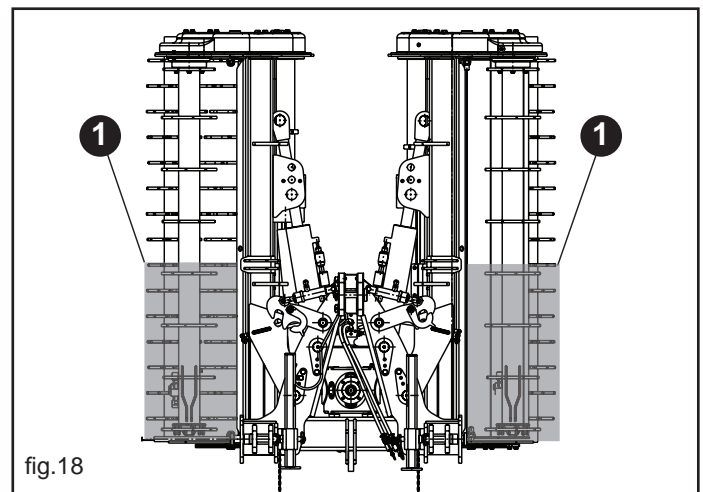
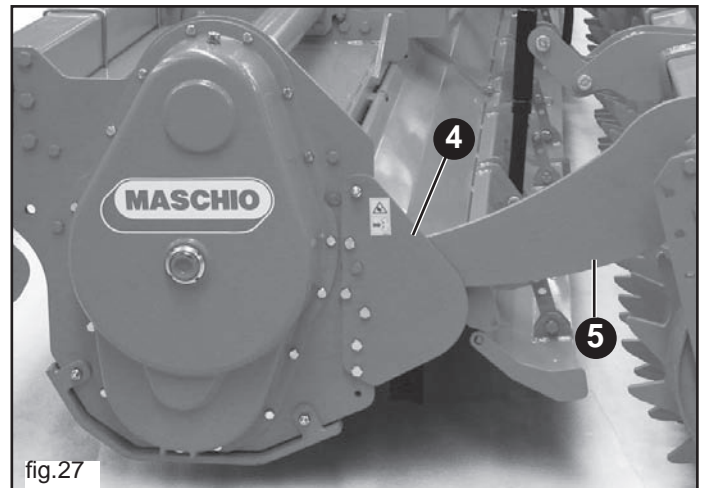

fig.18
fig.27
- **Mount the two side guards (1 Fig. 18) during the transport phase.**
Function of the conveyor (4 Fig. 27) is to hold the soil inside the rotary hoes' chamber, to work it better, and avoid leaving accumulations of it at the sides of the machine. It also has a protective function, as it obstructs the clearance between the leveling plates and the external side.
Another important function is to support the roller connections (5 Fig.27) when the machine is in the closed position (eg fig.18)